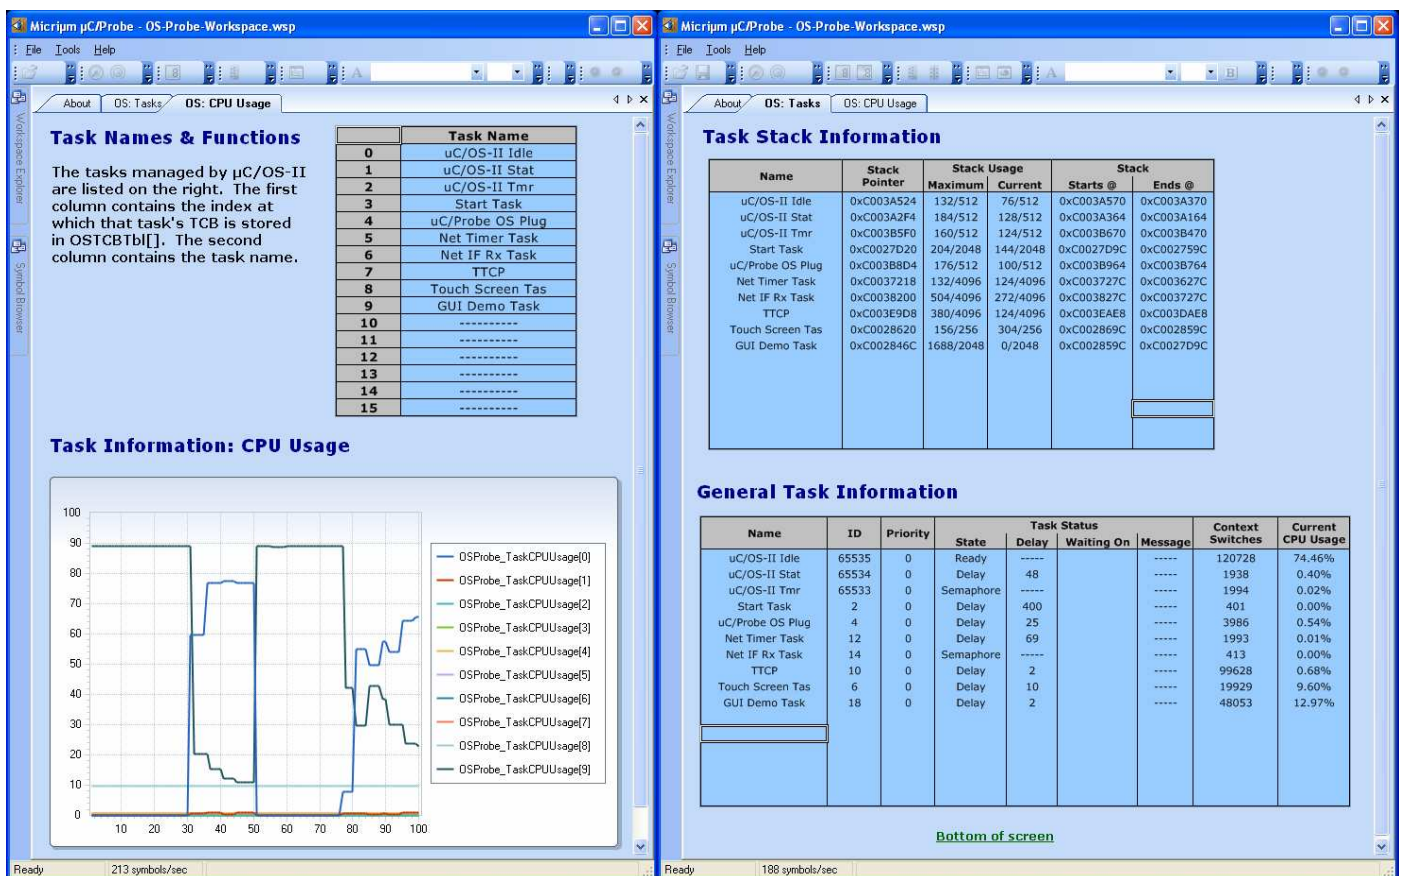

Figure 6-3. μ C/Probe Run-Time: μ C/OS-II Task Information
6. **Start Running.** You should now be ready to run **µC/Probe**. Just press the run button () to see the variables in the open data screens update. Figure 6-3 displays two screens in the **µC/OS-II** workspace which display detailed information about each task’s state.